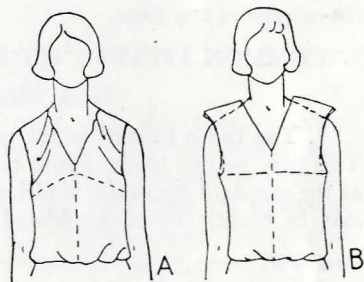

FIG. 6.—Wrinkles caused by shoulders being more sloping than those of standard figure.
3. Diagonal wrinkles from neck toward lower part of armscye.—If shoulders are more sloping than those of standard figure, (1) Take a deeper seam at the top of the shoulder to bring crosswise grain of material into right positions, then graduate seam to normal width toward the neck. This makes the armscyes higher under the arms so they may need to be clipped a little to make them comfortable (Fig. 6). (2) If the seam is wide enough, it can be narrowed at the neck and graduated to the normal width at the shoulder end. This method does not alter the armscye line but cannot be used so often because there is seldom width enough to let out the seam.